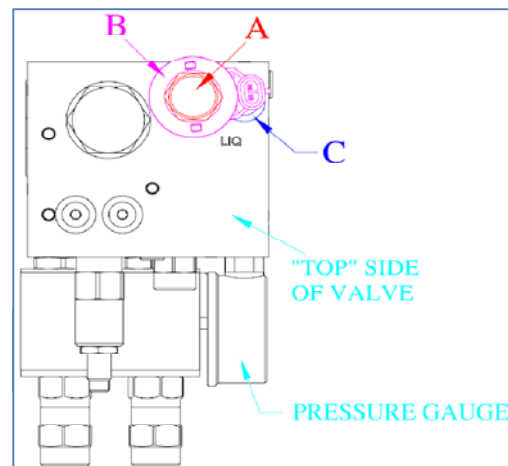

Figure 2
Install item “C” where item 2 was (torque to 20 ft lbs.) (See Figure 2).
Next install Item “A” where item 1 was (torque to 35 ft lbs.) (See Figure 2).
Then install item “B” onto item “A”, tighten nut snug. (See Figure 2)